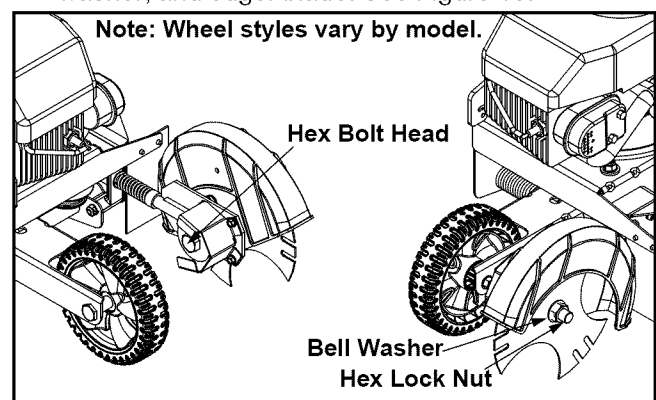

Figure 10
- Use two wrenches (one wrench to prevent the hex bolt head from spinning and the other to unthread the hex lock nut, bell washer, and edger blade. See Figure 10.
- Use two wrenches (one wrench to prevent the hex bolt head from spinning and the other to remove the hex lock nut and bell washer) to remove the edger blade. Refer to Figure 10.